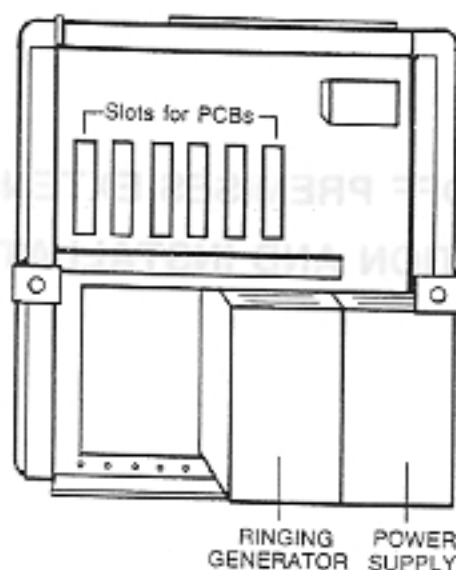
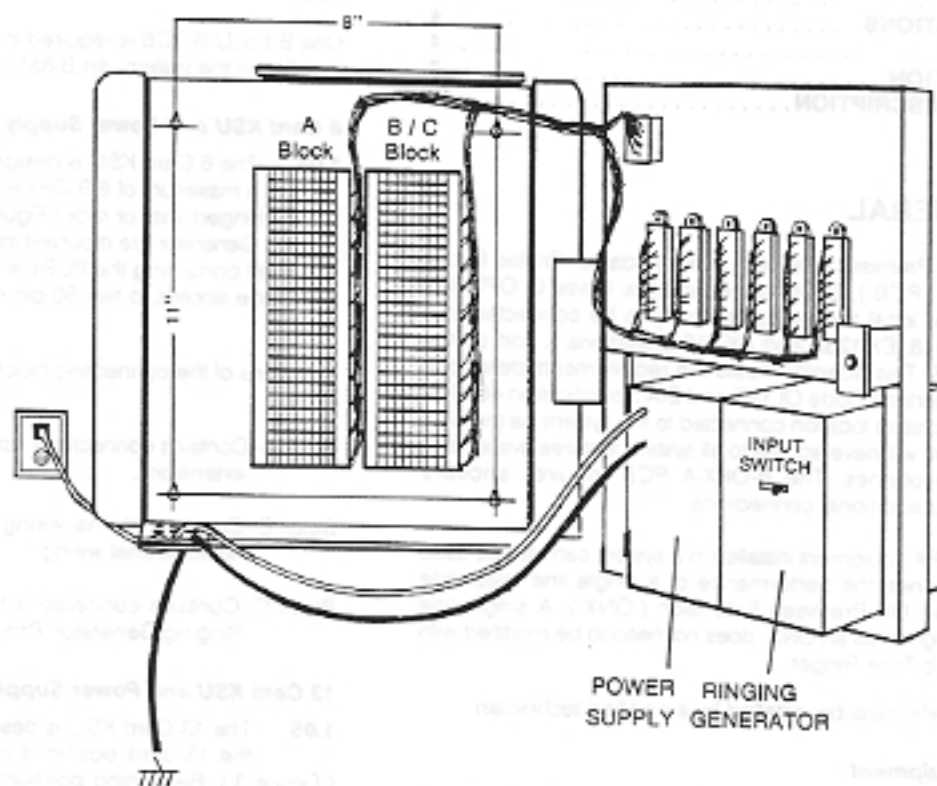

Figure 1 6 CARD KSU OUTSIDE VIEW
Figure 2 6 CARD KSU WITH HINGED SHELF OPENED
**1.04** The 6 Card KSU is designed for wall mounting and holds a maximum of 6 B-OPX-A PCBs. These boards are inserted into the hinged shelf or rack (Figure 1). The 48V Power Supply and Ringing Generator are mounted inside the KSU cabinet (Figure 2). The shelf containing the PCBs is hinged so that it can be opened to provide access to two 50-pin connecting blocks. One block is split.